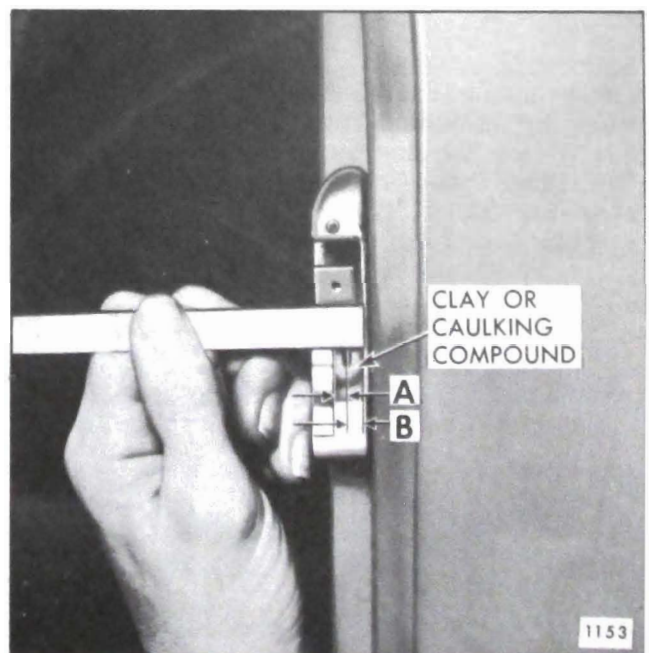

Fig. 9-21 — Tail Gate Lock Striker Caulking Check
- b. To determine if tail gate lock striker service spacers are required, apply modeling clay or body caulking compound in the lock striker notch where the lock extension engages and close tail gate to form a measurable impression in the clay or caulking compound, as shown in Figure 9-21.